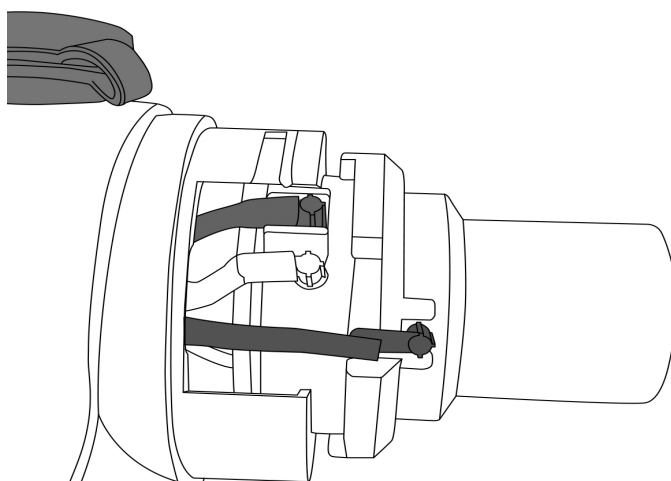

Figure 8 - Green and clear tubing removed from elbows.
3. Remove green and clear tubing by sliding them off the green coloured elbow (Figure 8).